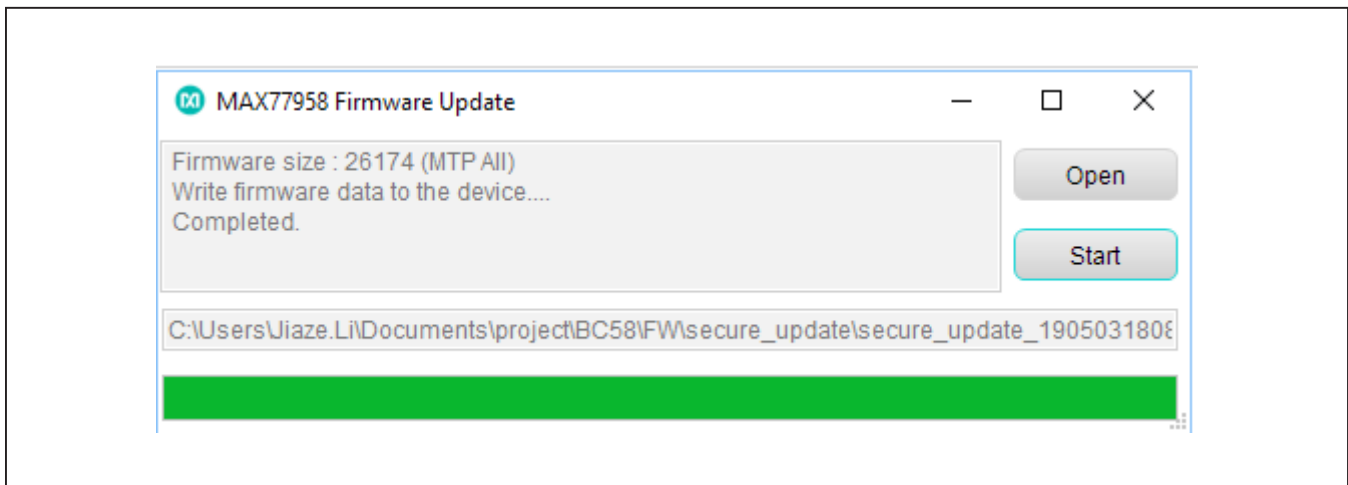

Figure 12. Firmware Update Process Complete
- 5) Figure 12 shows the firmware update process is completed.